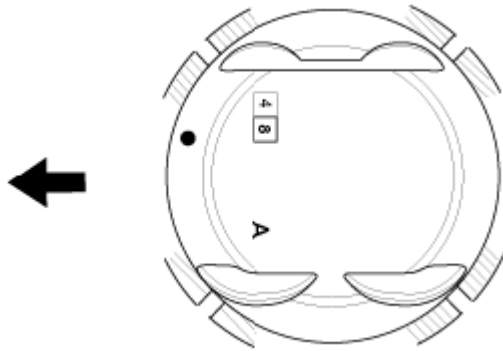

Fig. 34: Positioning Piston Rings
3. Position the piston rings so that the ring ends are as shown in **Fig. 34**.